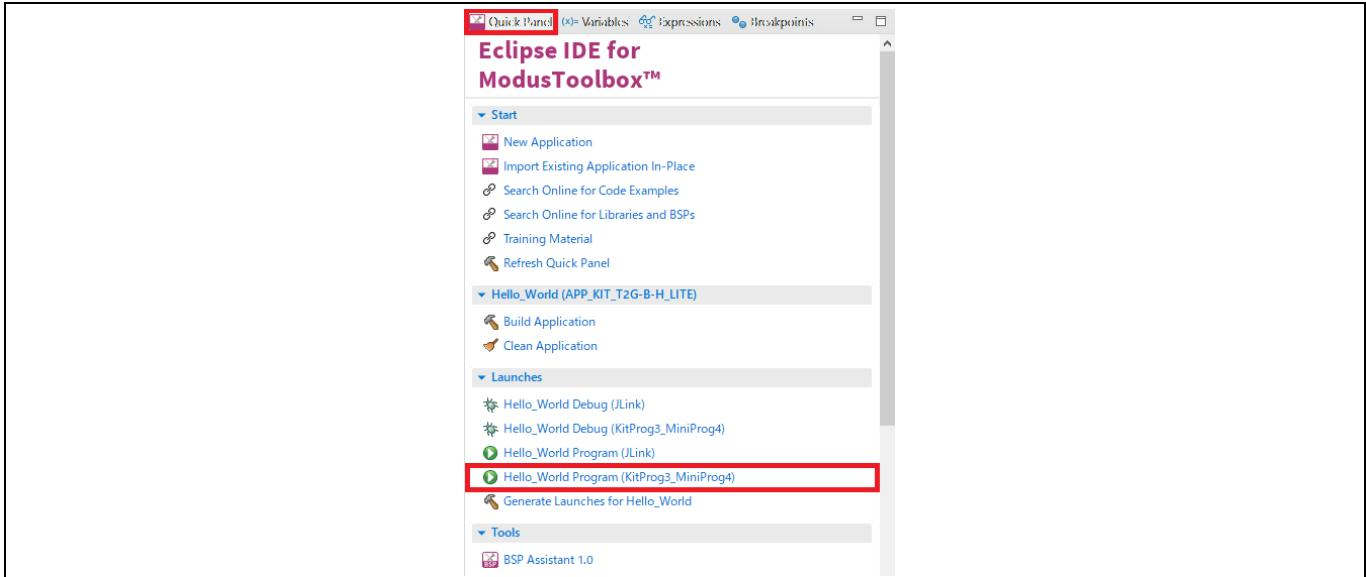

Figure 11 Programming in ModusToolbox™ software
- To build and program a TRAVEO™ T2G-B-H MCU application, in the Project Explorer, select <App_Name> project. In the Quick Panel, scroll to the Launches section and click the <App_Name> Program (KitProg3_MiniProg4) configuration as shown in Figure 11.